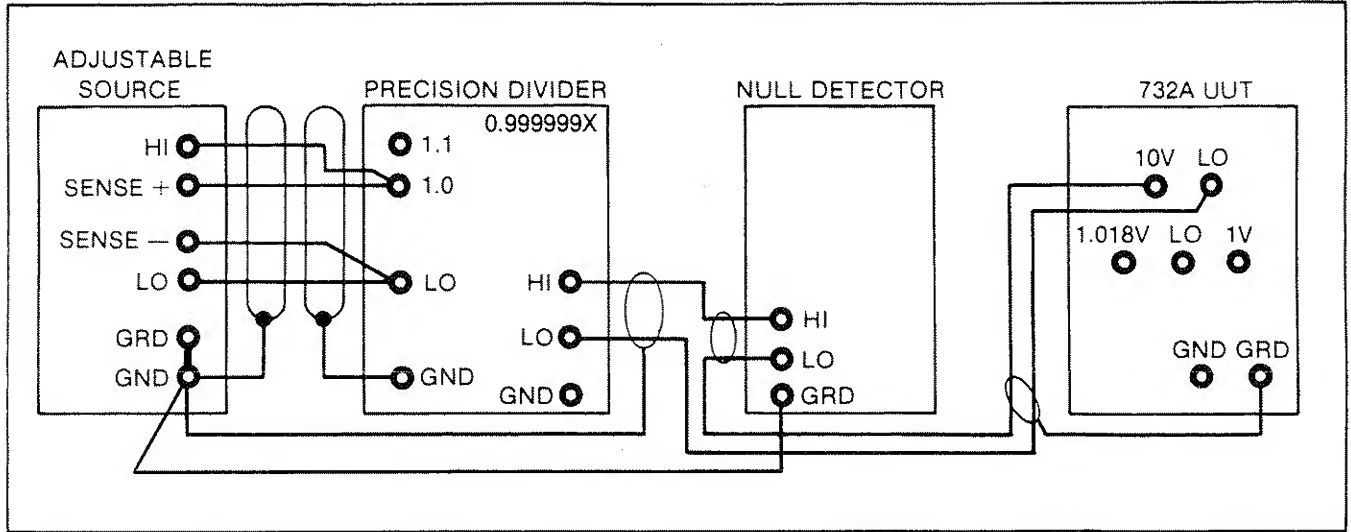

Figure 4-10. 732A Procedure 'B' 10V Calibration
20. Connect the equipment as shown in Figure 4-10.